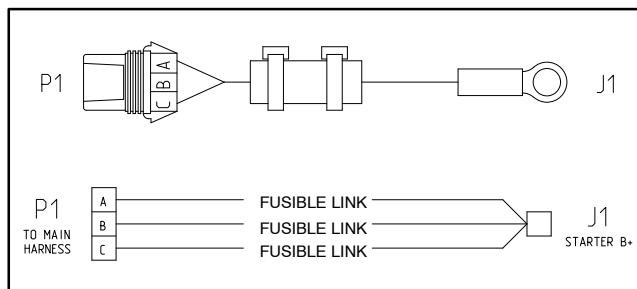

Figure 30
5. Use a multimeter to make sure that continuity (zero ohms) exists between each terminal pin in connector P1 and connector J1 at the starter (Fig. 30). If any of the fusible links are open (infinite ohms), replace the fusible link harness.